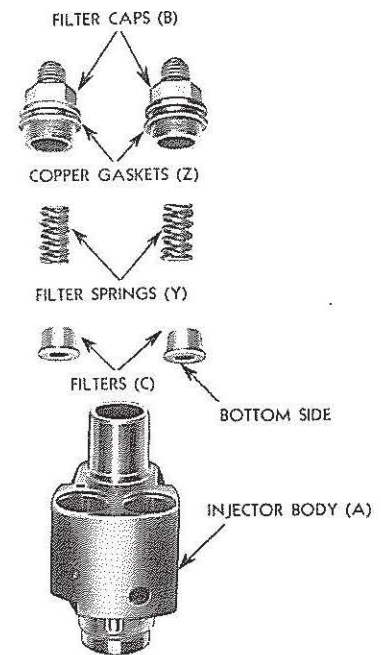

FIG. 11
1. To assemble filter, hold the injector body Fig. 11 right side up, place one of filters in each of the fuel cavities in the top of the injector body. When assembling the filters always have the washer at the bottom as shown in Fig. 11. Whenever the injector is dismantled install new filters. Place a spring above each filter, a copper gasket up against the shoulder of each filter cap, lubricate the threads and tighten the filter caps in place in the injector body. Whenever a filter cap is removed from the injector body use a new copper gasket under each cap.